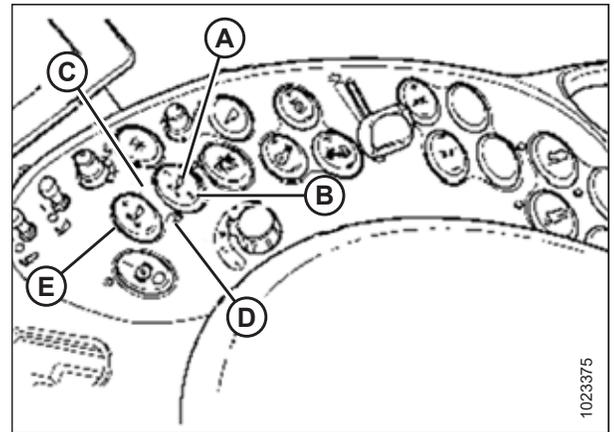

Figure 4.60: Case Combine Controls
6. To swap between set points, press HEADER RESUME (A).
7. To pick up header at headlands, press HEADER RESUME (A) twice. To lower, press HEADER RESUME (A).
You can adjust these set points by using FINE ADJUST switch (E) in Figure 4.60, page 125.